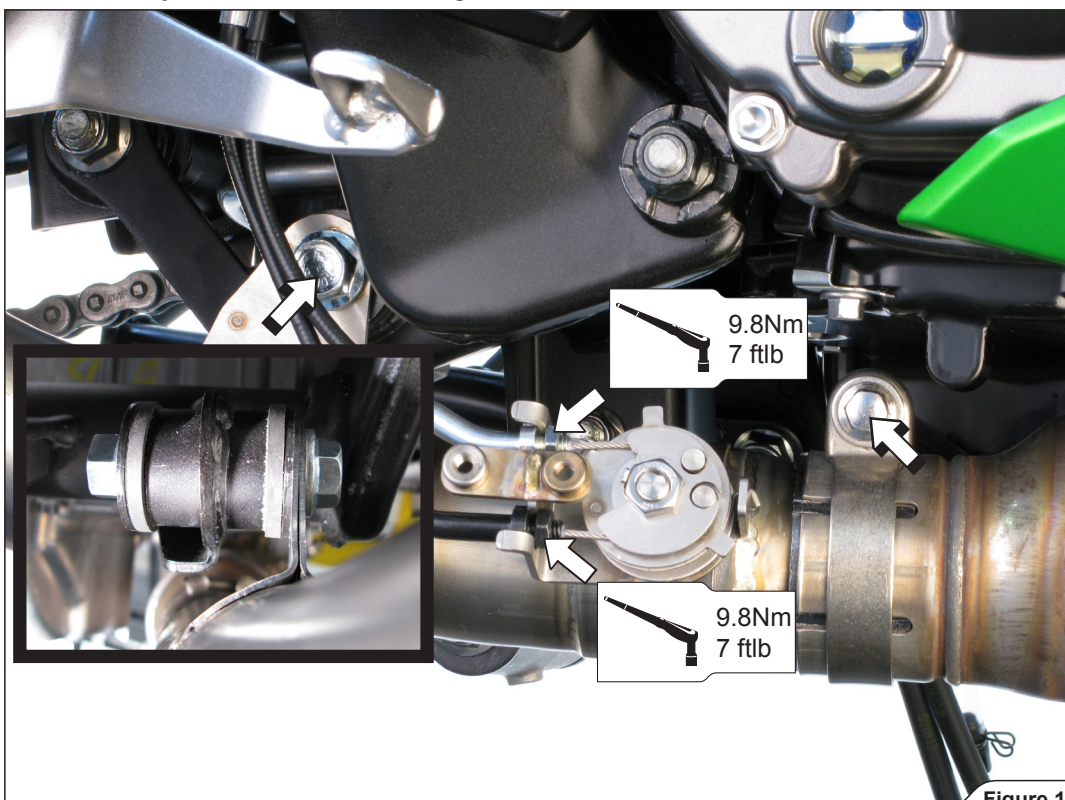

Figure 10
2. Remove the carbon fiber valve's shield. Carefully slide the muffler onto the outlet side of the stock collector. Hand tighten the link pipe's bracket (using bolt and nut from Akrapovič installation kit) and mount valve cables as shown (**Figure 10**).